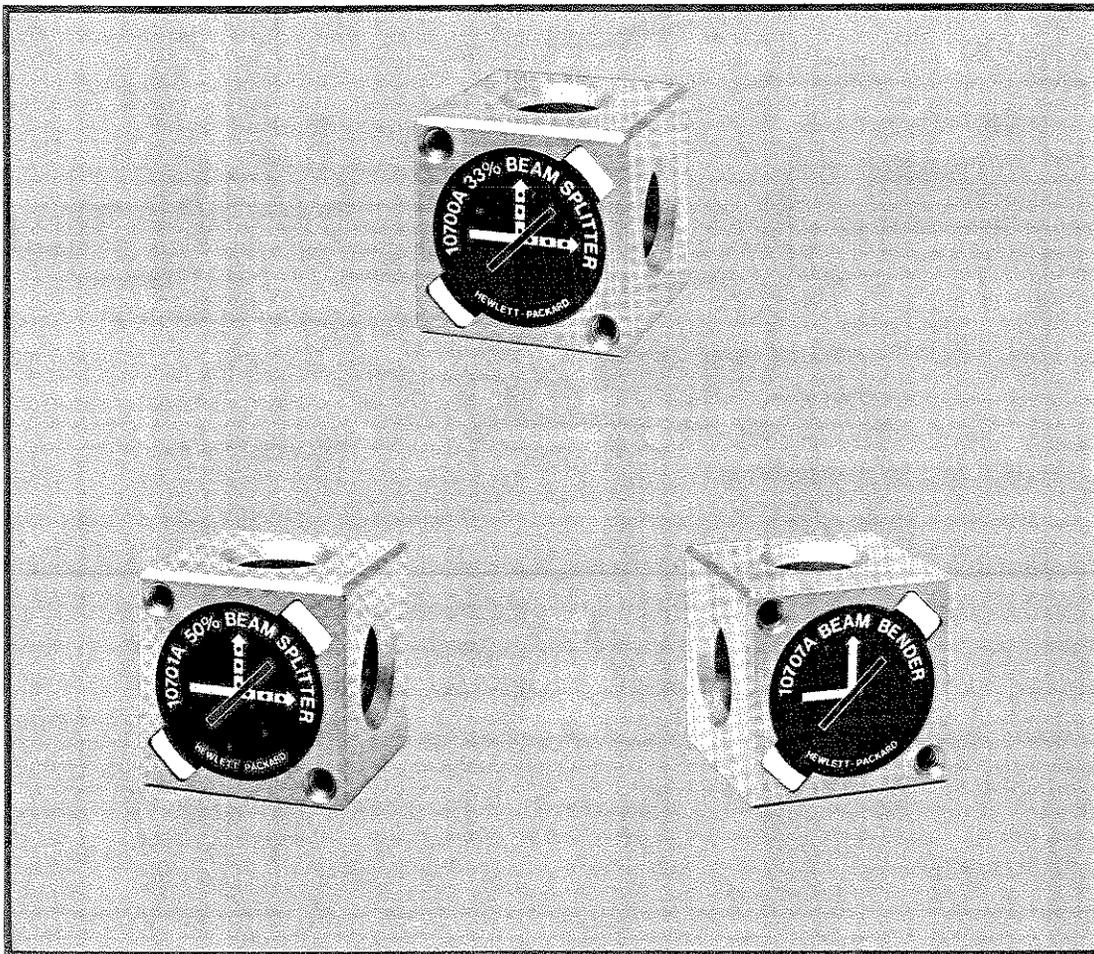

Figure 2-9. Splitting and Bending Optics
2.9 Splitting and Bending Optics (Figure 2-9)